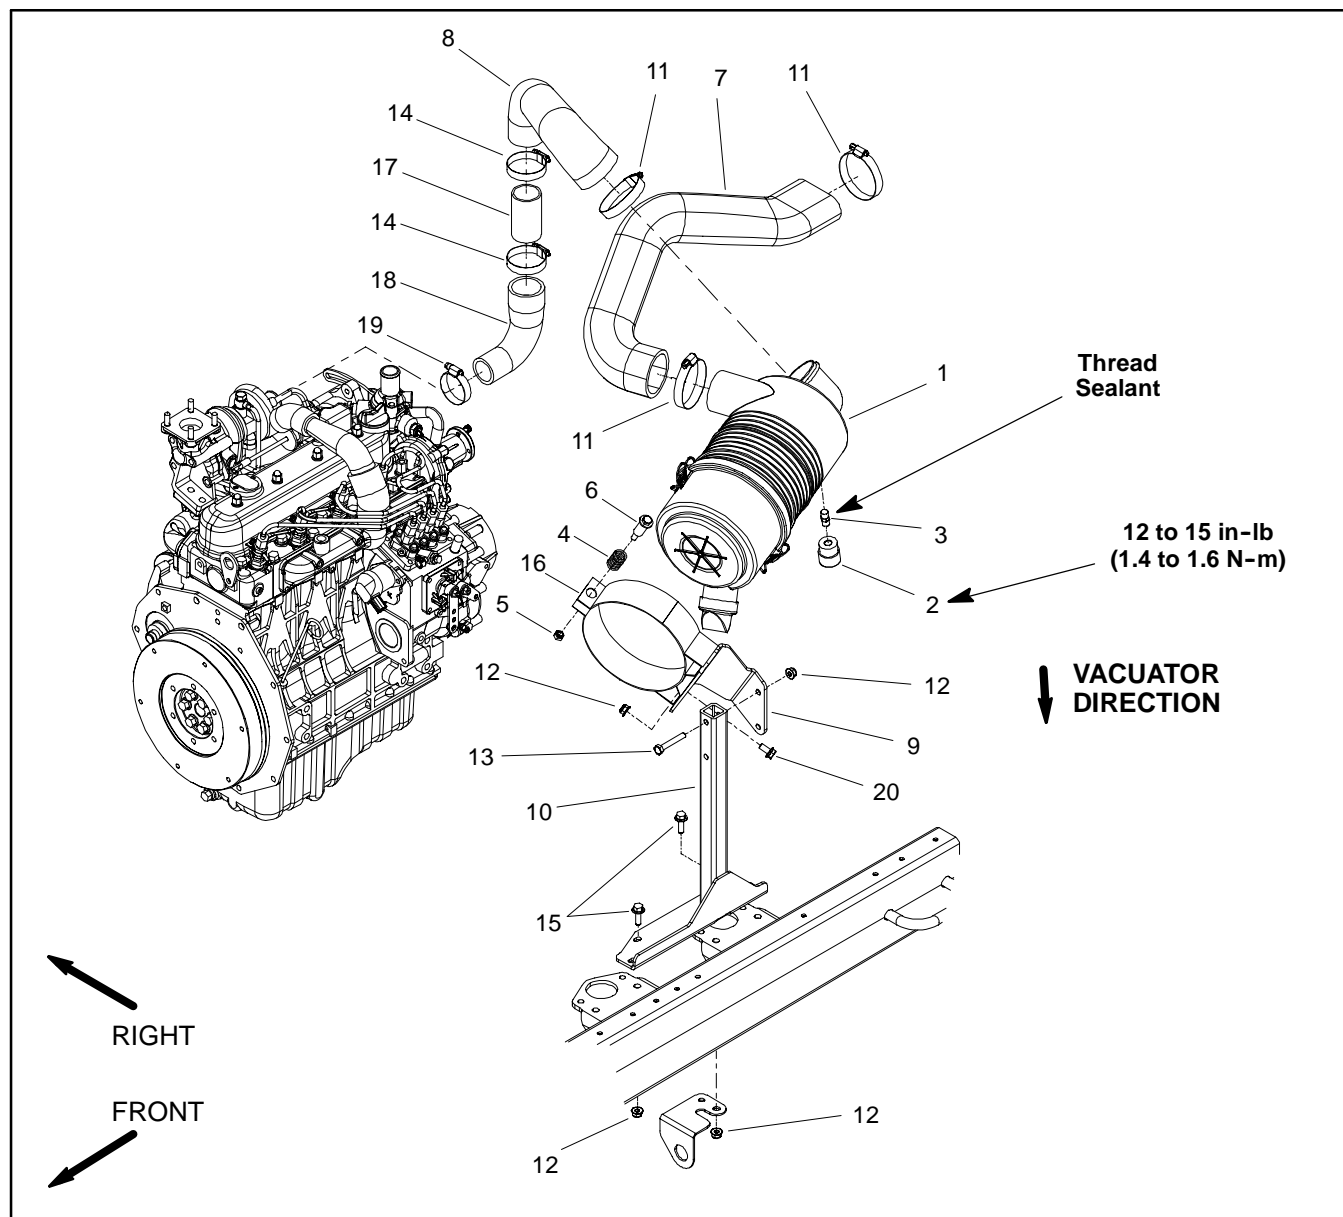

Figure 4
Removal (Fig. 4)
2. Remove air cleaner components as needed using Figures 4 as a guide.
Installation (Fig. 4)
1. Assemble air cleaner system using Figure 4 as a guide.